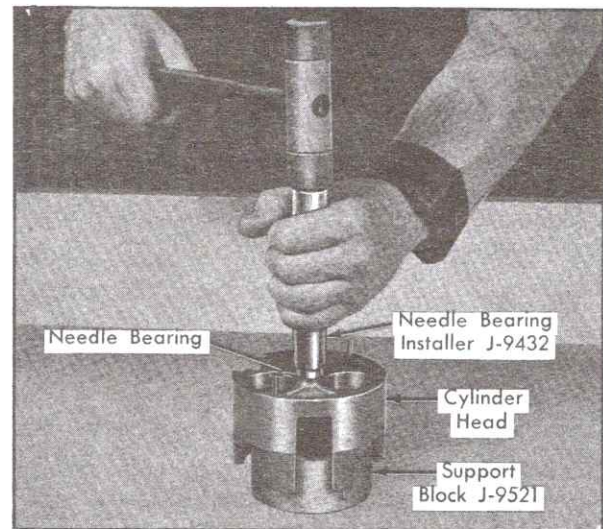

Fig. 1-54 Installing Needle Bearing
17. Needle bearings may be removed if necessary by driving them out with special Thin Wall Socket, J-9399. Insert socket in hub end (inner side) of cylinder head and drive bearing out. To install needle bearing, place cylinder half on Support Block, hub end down, and insert bearing in end of cylinder head with bearing identification marks up. Use Needle Bearing Installer, J-9432, and drive bearing into cylinder head, Fig. 1-54, until tool bottoms on cylinder face.